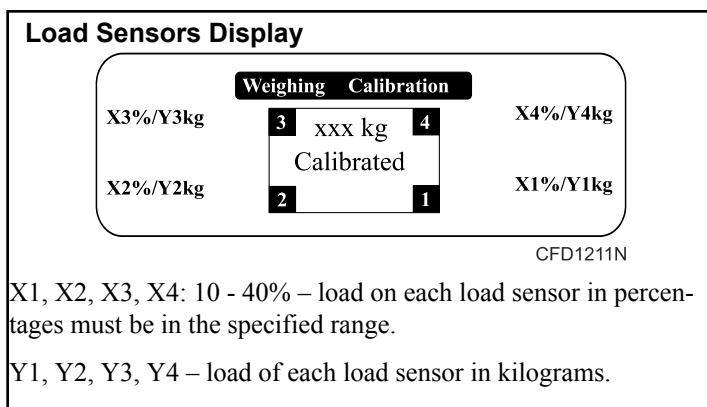

Figure 15
10. Install the covers (4), (5) and (6). In case that the machine is placed in a hygienic barrier, install also the sealing profile (7).
11. Check and if necessary adjust the height of the load sensor feet so that an even load distribution among all the load sensors is ensured. Refer to *Figure 15*.